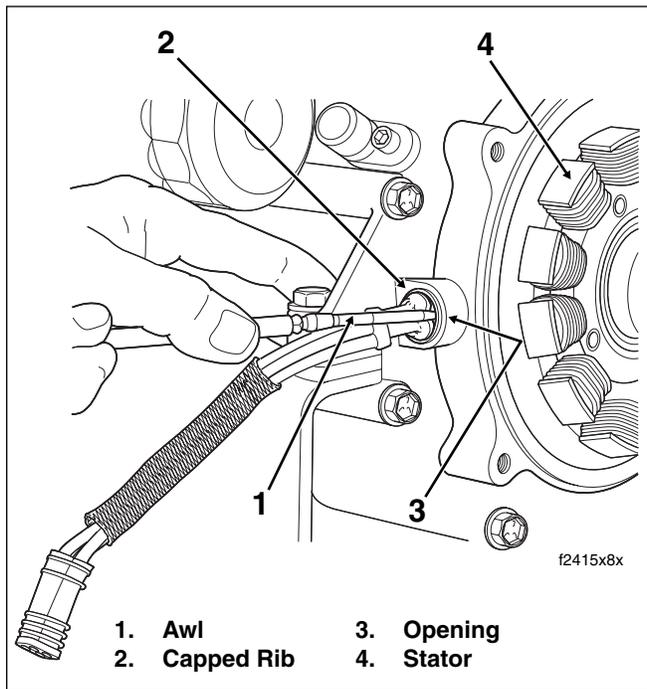

Figure 3-14. Remove Grommet From Crankcase
- b. Using point of awl, carefully lift capped rib on grommet away from crankcase and then insert into bore between grommet and casting. See Figure 3-14. Tilt awl slightly squirting isopropyl alcohol or glass cleaner into opening. Repeat this step at one or two other locations around grommet.